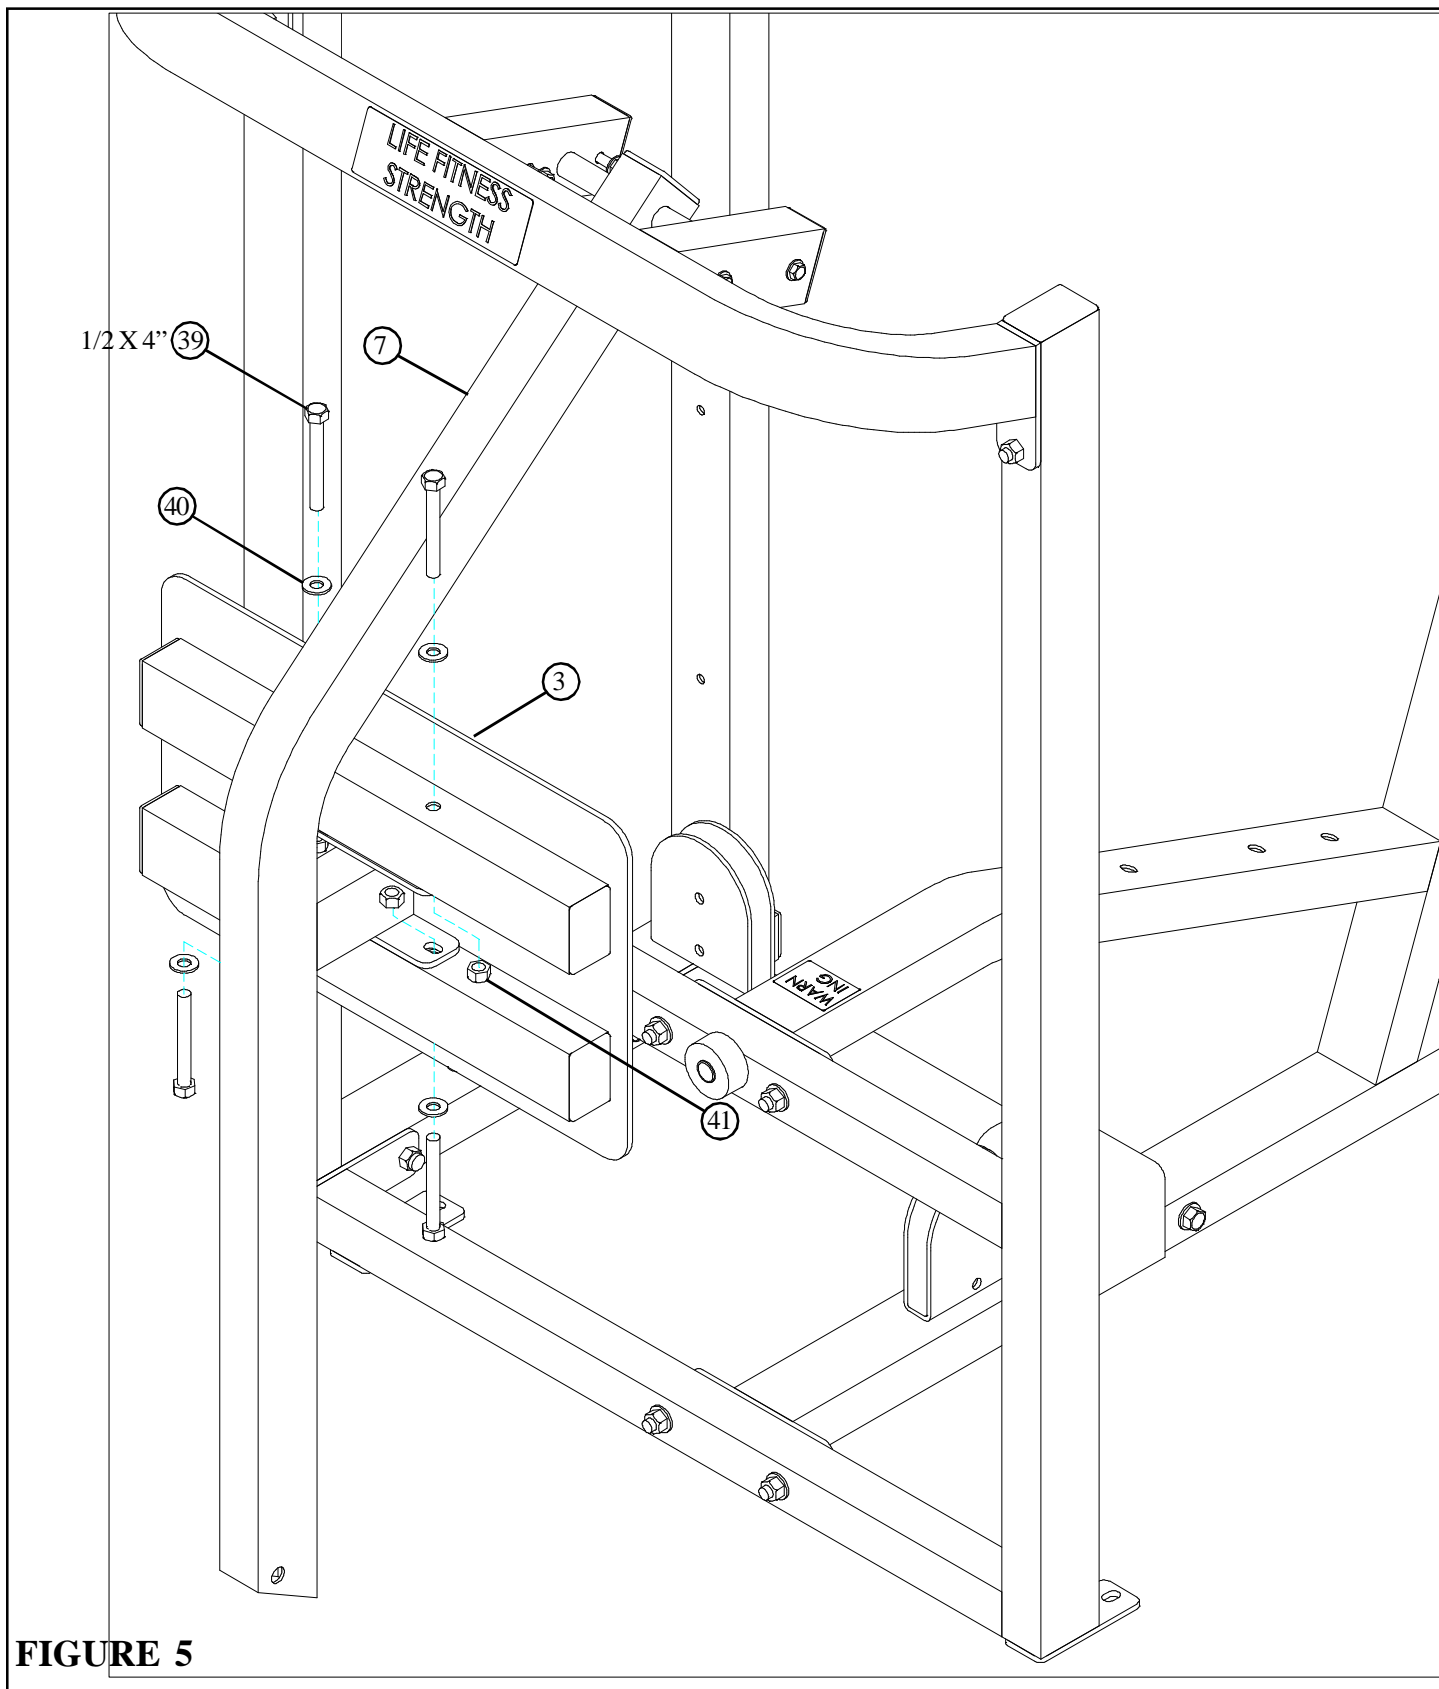

**FIGURE 4**
- Slide one RUBBER BUMPER (21) over the short round tube on the PIVOT FRAME (6) as shown in FIGURE 4.
- Slide two 1-3/4" VINYL SLEEVES (22) over the shafts on the PIVOT ARM (7) as shown in FIGURE 4.
- Slide two PILLOW BLOCKS (18) over the shaft on the PIVOT ARM (7) and **SECURELY** assemble the two PILLOW BLOCKS (18) to the UPPER CROSS SUPPORT (5) using four 3/8 X 3-1/4" BOLTS (35), four 3/8" WASHERS (36), and four 3/8" LOCK NUTS (37) as shown in FIGURE 4.
- Center PIVOT ARM (7) and securely tighten set screws on the PILLOW BLOCKS (18). See FIGURE 4.